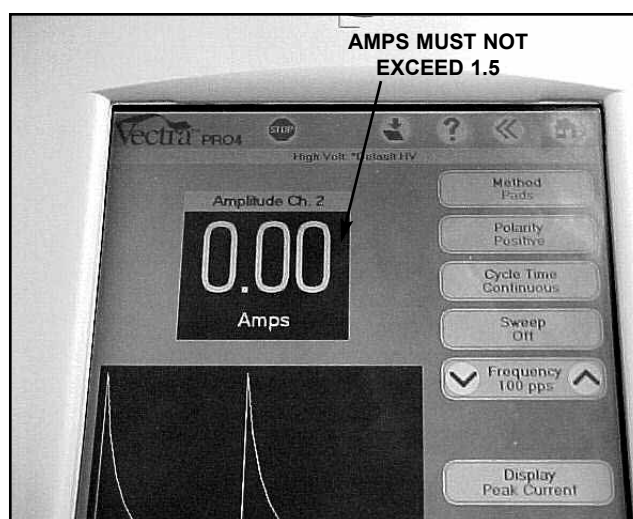

FIGURE 5.19
13. The numbers in the "Amplitude Ch. 2" icon must not exceed 1.5. See Figure 5.19.